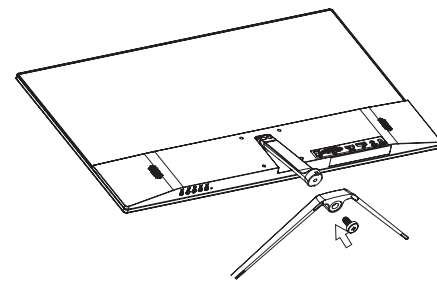

Fig.2
2. Install the base with the screw holes as the arrow direction, and lock 1 set 4*12 mm screws (Fig.2).